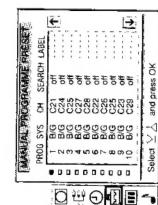

Fig. 22
- 3 Select »Manual Programme Preset« with $\Delta+$ or $\nabla-$ and press OK. The MANUAL PROGRAMME PRESET menu appears. (See Fig. 22.)